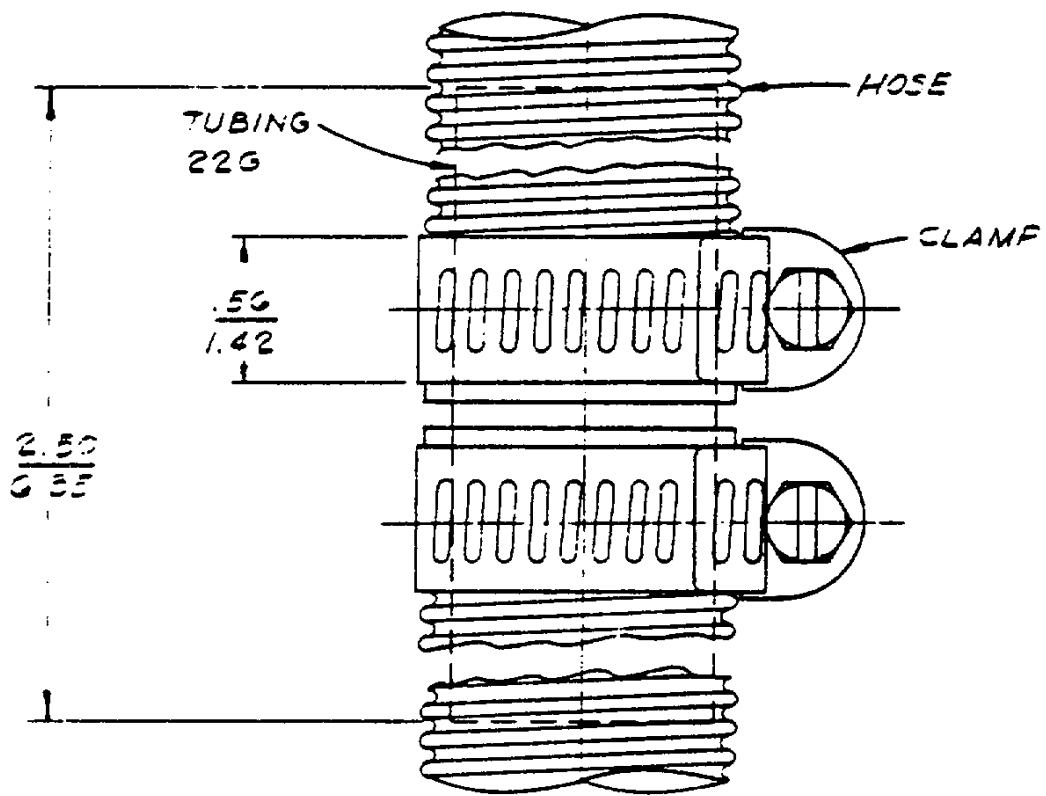

Figure 4-5. Typical Hose Coupling, SKC-148132
- 4.12 All piping connections to the detection cabinet and suction blower housing must be made with flexible hose couplings as shown in Figures 4-5 and 4-6.